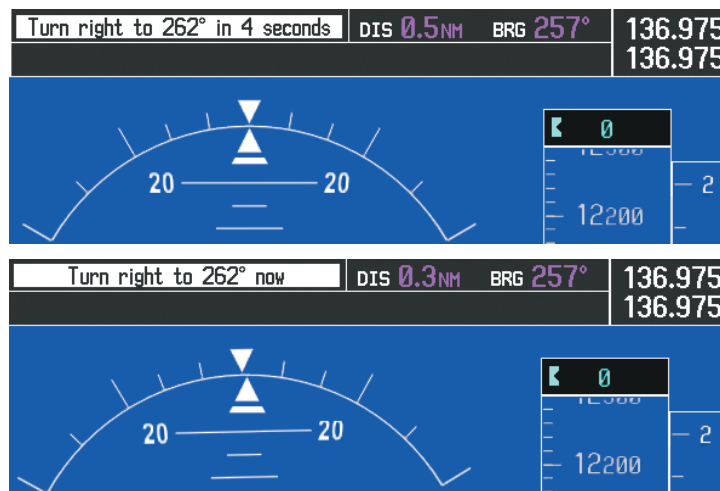

Figure 5-115 Turn to Intercept V244
- 8) At SLN, Victor Airway 244 (V244) is intercepted. Turn prompts are displayed in the PFD Navigation Status Box as seen in Figure 5-115.